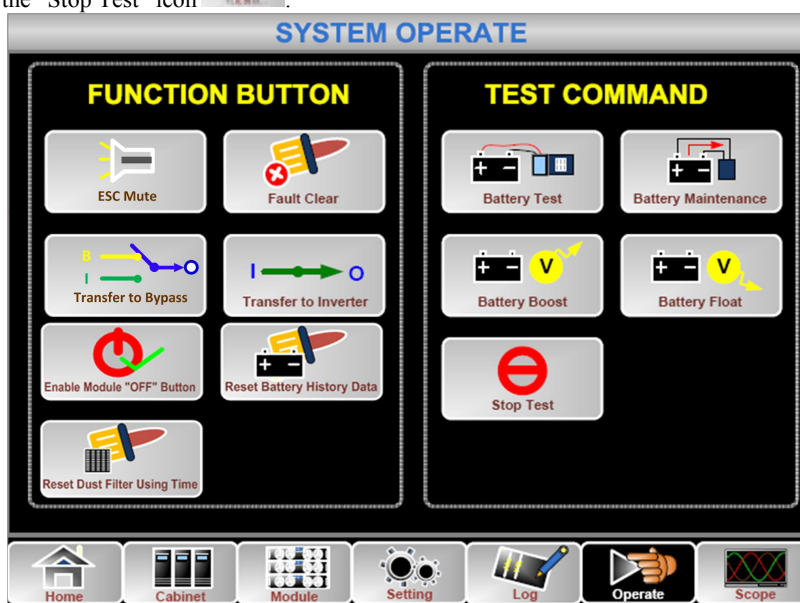

Figure 5-3 Battery maintenance
- 1) Manual Discharging test. Enter the menu Operate, as is shown in Figure 5-3 and touch the icon “Battery
The parallel interfaces are located in the back panel of the cabinet , open the panel can see . The parallel terminal is shown in Figure 5-3